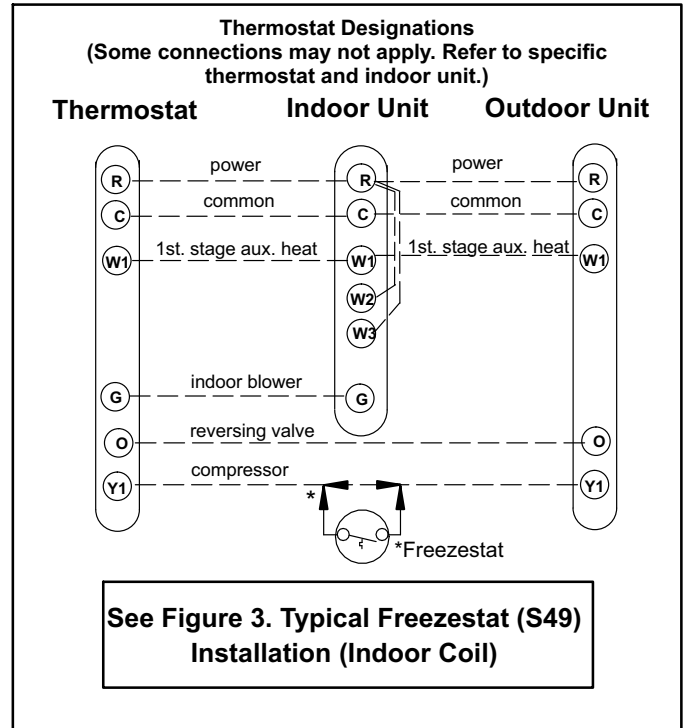

Figure 5. S49 Freezestat Installation
3. - Connect freezestat (S49) wires as shown in figure 5.